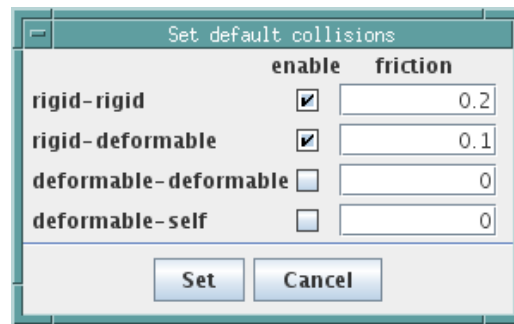

Figure 43: Dialog for setting default collision behavior in a MechModel.
- For default behaviors, the `enabled` and `friction` properties can be edited by selecting the `MechModel` and then choosing "Set default collisions ..." from the context menu. This will open the dialog shown in Figure 43, allowing the `enabled` and `friction` properties to be adjusted. For the example shown, collisions are enabled between all rigid bodies, with a friction coefficient of 0.2, and between all rigid and deformable bodies, with a coefficient of 0.1. Other collisions are disabled.